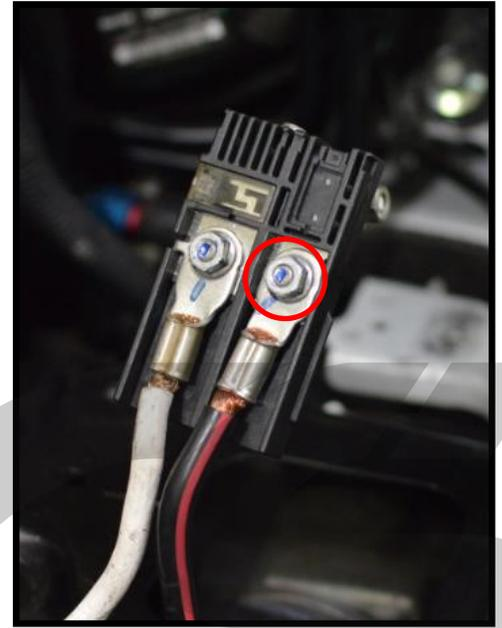

Figure 4a
- a) **Locate the positive terminal lead.** Remove the 10mm nut holding the black w/red strip wire. Shown with the **red circle** in **Figure 4a**.